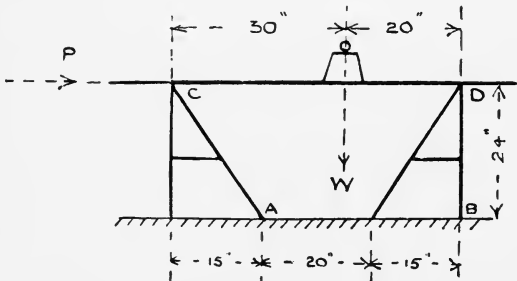

Fig. 1.
1. Fig. 1 represents a table supported upon two trestles hinged to the table at C and D . Use the principle of work to determine the magnitude of the force P which will just cause the trestles to turn about the points A and B .